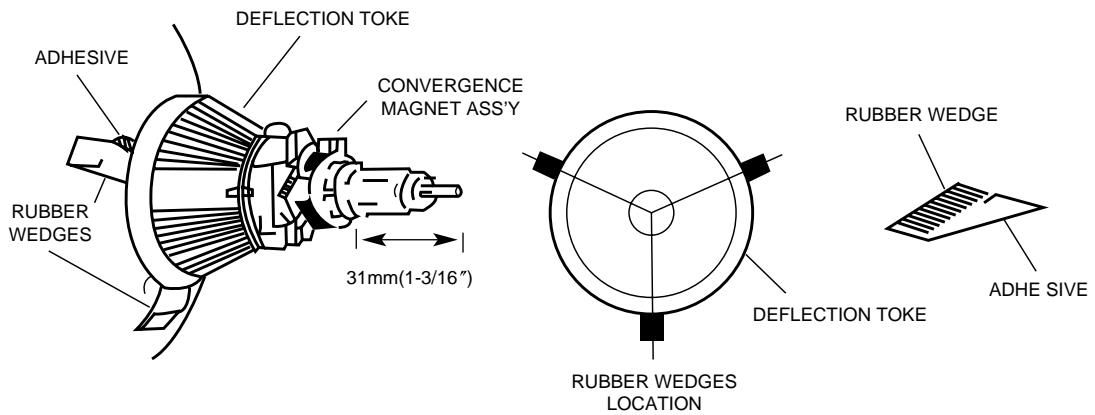

FIGURE 1. COLOR PURITY ADJUSTMENT
4. Loosen the clamp screw holding the yoke and slide the yoke backward to provide vertical green belt (zone) in the picture tube. (See Figure 1)
2. Place a wedge as shown in Figure 1 temporarily.
9. Stick the grass cloth tapes on 3 wedges as shown in Figure 1.